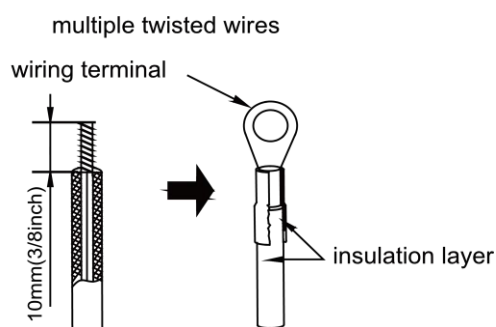

Fig 5.1.2
- (2) The connection of stranded wire (as shown in fig 5.1.2)